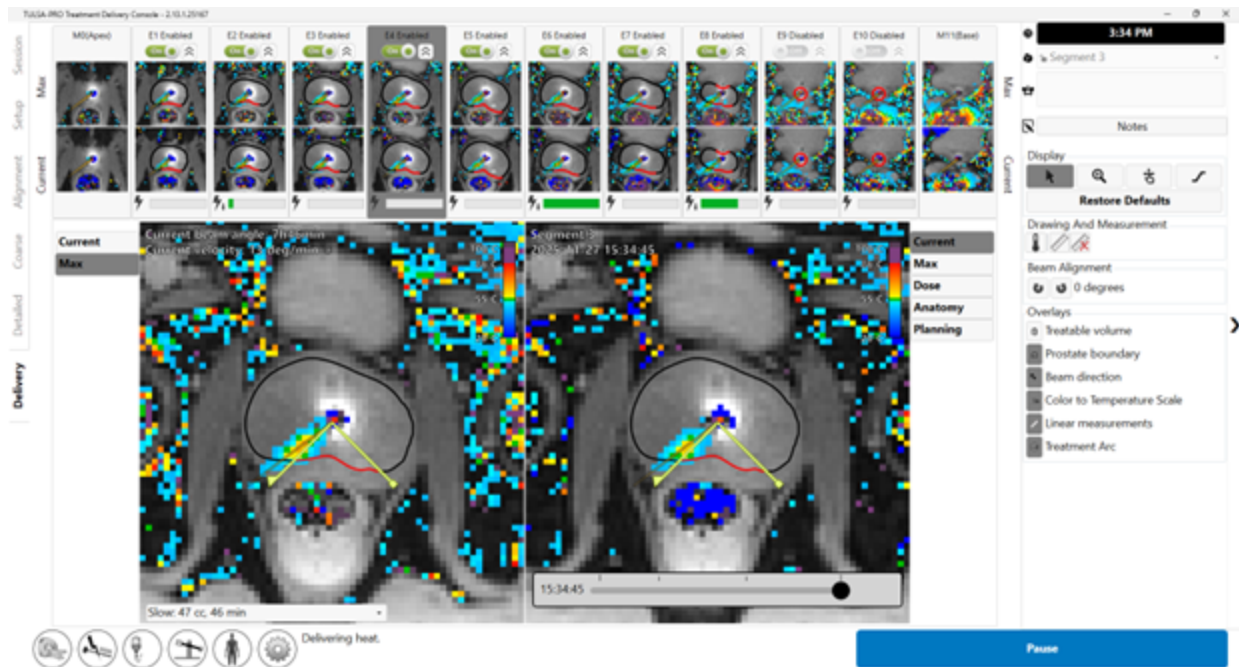
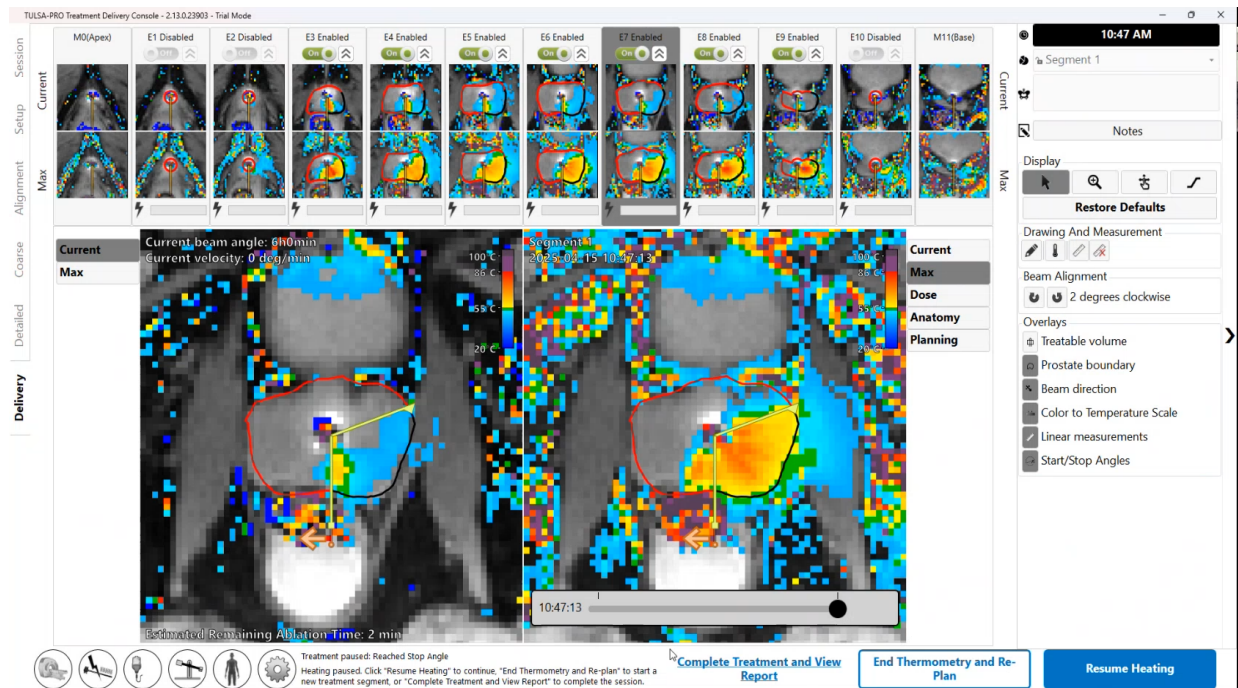

Figure 47: Ultrasound heating has begun
Figure 53: Delivery workspace with treatment and heating paused
**Radiologist:** After receiving 25 thermometry dynamics, heating begins (*Figure 47*). Throughout the ablation, actively monitor real-time treatment images on all slices, ensuring that:
Radiologist: At any time during Delivery, click **Pause** in the bottom-right corner of the screen (see *Figure 47*). While in the paused state, all heating from the UA is suspended while thermometry acquisition continues (*Figure 53*).